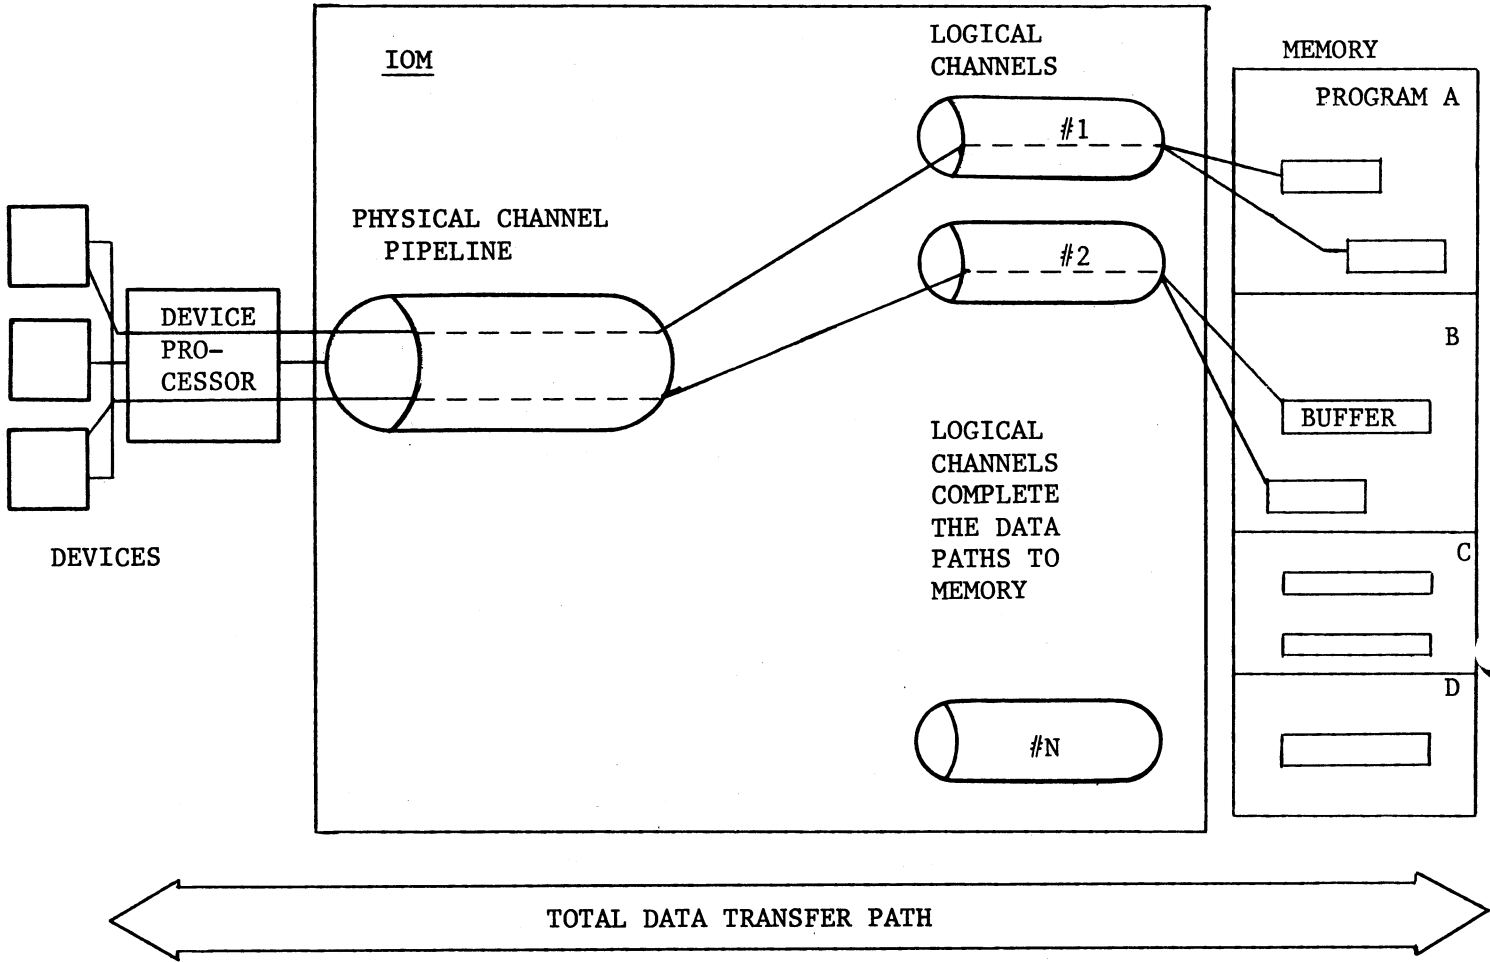

Figure 4-2. Multiple Logical Channels/Paths per Physical Channel
2. Refer to Figure 4-2. Once you have configured two or three systems you will probably be able to come directly to this figure for determining both the channel spaces available and the quantity required for each physical channel, by-passing Section C above. In any event before you use the figure below, you must know the number of physical I/O channels you need for each subsystem (i.e., channel terminations needed in IOM).
3. Figure 4-2 gives you the information necessary to determine how many peripheral subsystems can be configured in a Level 68 system.
- d. See Figures 4-2 and 4-3.
d. See Figures 4-2 and 4-3 for determining required and optional logical channels.
a. Multiple logical channels/paths per physical channel. (See Figure 4-2).